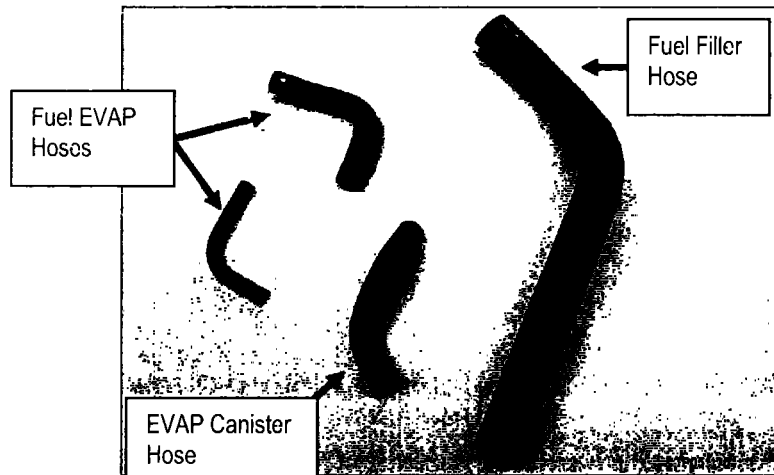

Figure 1d
- Fuel hose kit (see Figure 1d)